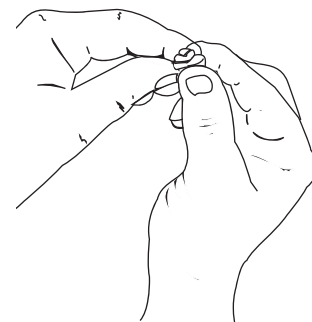

Fig. 48
5. Squeeze the filter to spread and remove excess oil (Fig. 48).